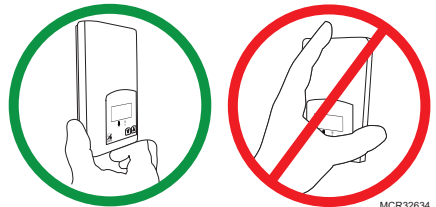

Fig. 9. Hold the wireless survey tool, as shown in the left image, when doing a site survey.
- To ensure accurate readings, ALWAYS hold the wireless survey tool near the bottom. Do not hold it up higher, as you may cover the antenna (Fig. 9).